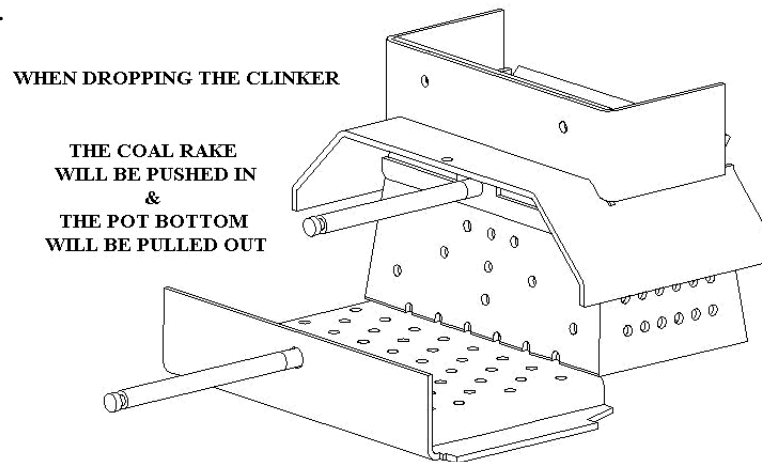

Figure 25
Step 3 - The Slide-Out Bottom. (See figure 25) Now you are ready to drop the clinker from the burn pot. Pull the bottom out in one quick motion and let the clinker drop into the ash pan. Quickly push the bottom in again. To pull out the slide bottom use the Rod Handle tool that came with the unit.